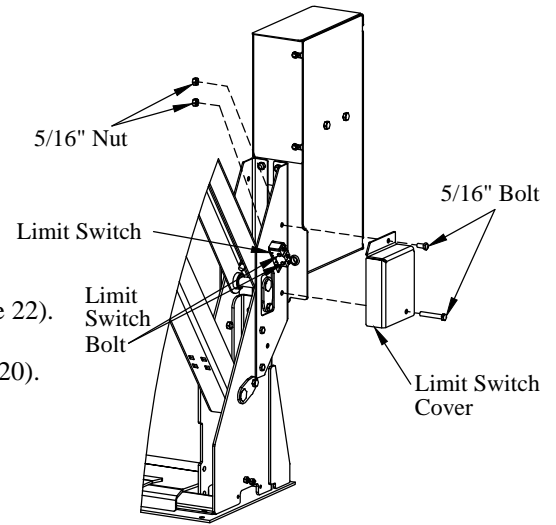

Figure 20: Limit Switch.
5. **Remove** the limit switch cover by removing two (2) 5/16" bolts and nuts (Figure 20).
6. **Loosen** the bolts holding the limit switch (Figure 20).
9. **Install** the limit switch cover with 5/16" bolts and nuts. Be careful not to over tighten the 5/16" bolts (Figure 20).